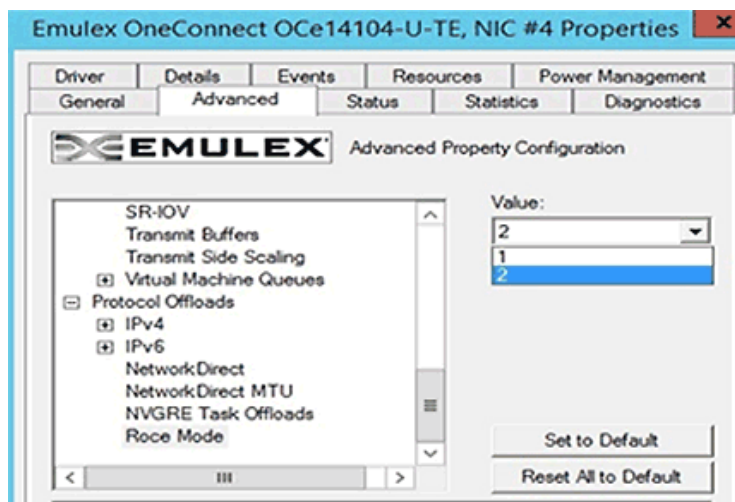

Figure 3-8 Advanced tab RoCE Mode selected
1. From the Advanced tab of the Network Property page, select **RoCE Mode** (Figure 3-8 on page 93).